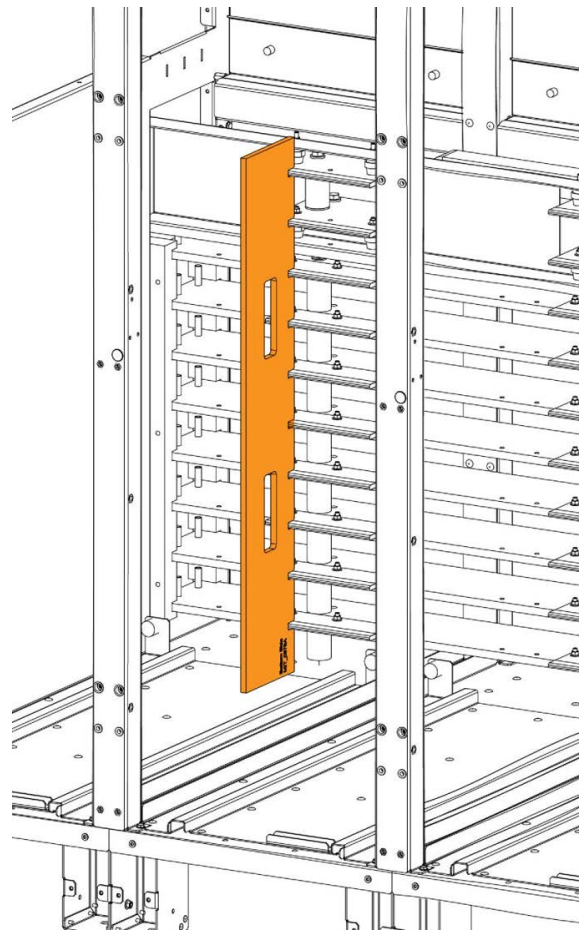

Figure 5.17 Busbar alignment checks
1. Before inserting the power modules, verify the alignment of the power busbars in each power module frame using the power busbar alignment tool, as shown in Figure 5.17.